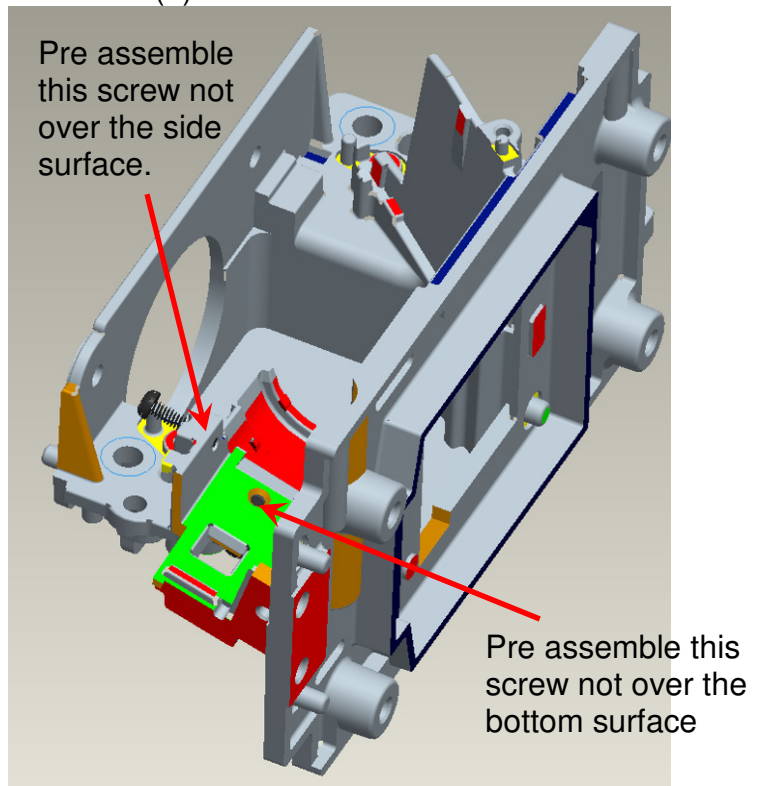

Fig. 1-17
** Adjustment criteria refer to below item 1.6 & Fig. 1-17.